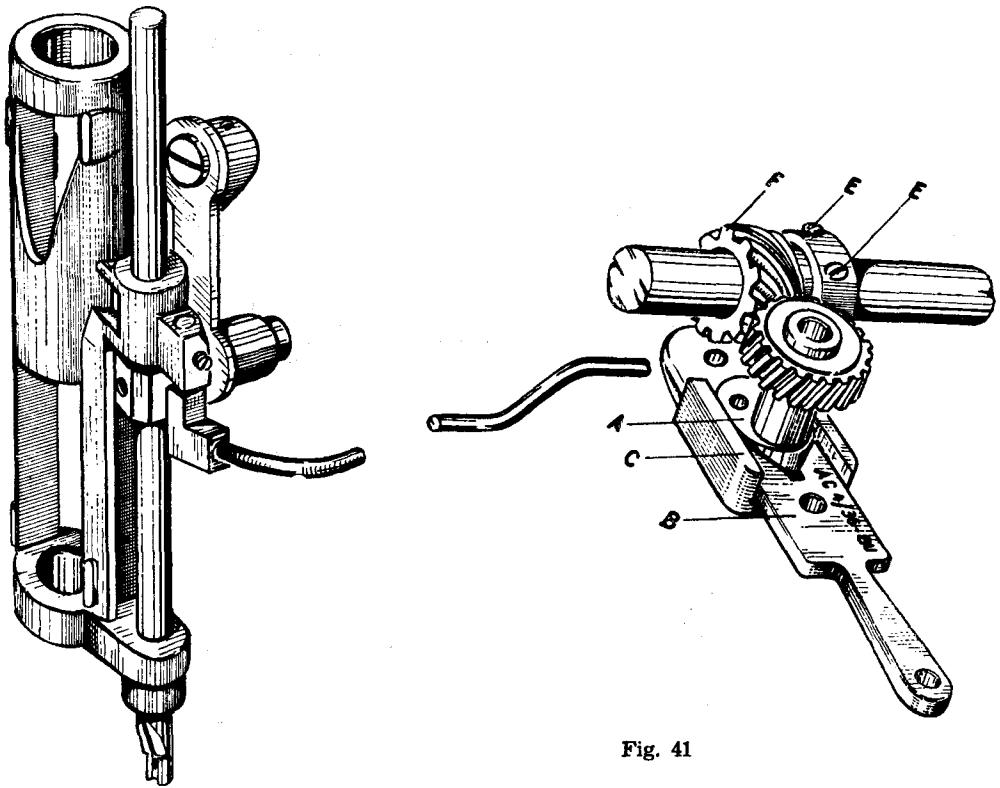

Fig. 41
1. Turn the balance wheel slowly toward you and bring the eccentric « A » (see Fig. 41) toward the inside of the machine.
2. Insert the timing gauge « B » into the oscillating lever « C » (see Fig. 41) and, while slightly turning the balance wheel back and forth bring the eccentric « A » in a position so that the V-shaped cut-out of the timing gauge « B » fits properly against the back portion of this eccentric.
Loosen the screws « E » of the worm « F » on the arm shaft (see Fig. 41), then, while pressing the timing gauge « B » against the eccentric « A » (to block this eccentric), turn the balance wheel slowly until the needle bar is in its highest position. Finally again, firmly tighten the screws « E » of the worm « F ».